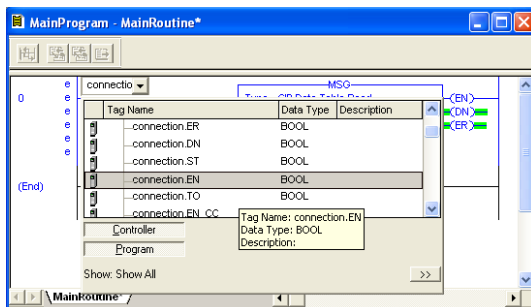

Figure 59: Configure XIO Element
- a) Double-click on the XIO element located to the left of the MSG block. In the drop-down box, double-click on the "connection.EN" field. Refer to Figure 59. This configuration causes the MSG instruction to automatically retrigger itself when it completes. While this is acceptable for the purposes of this example, it can produce high network utilization. In actual practice, it may be desirable to incorporate additional logic elements to allow triggering the MSG instruction at a specific rate or under specific conditions.